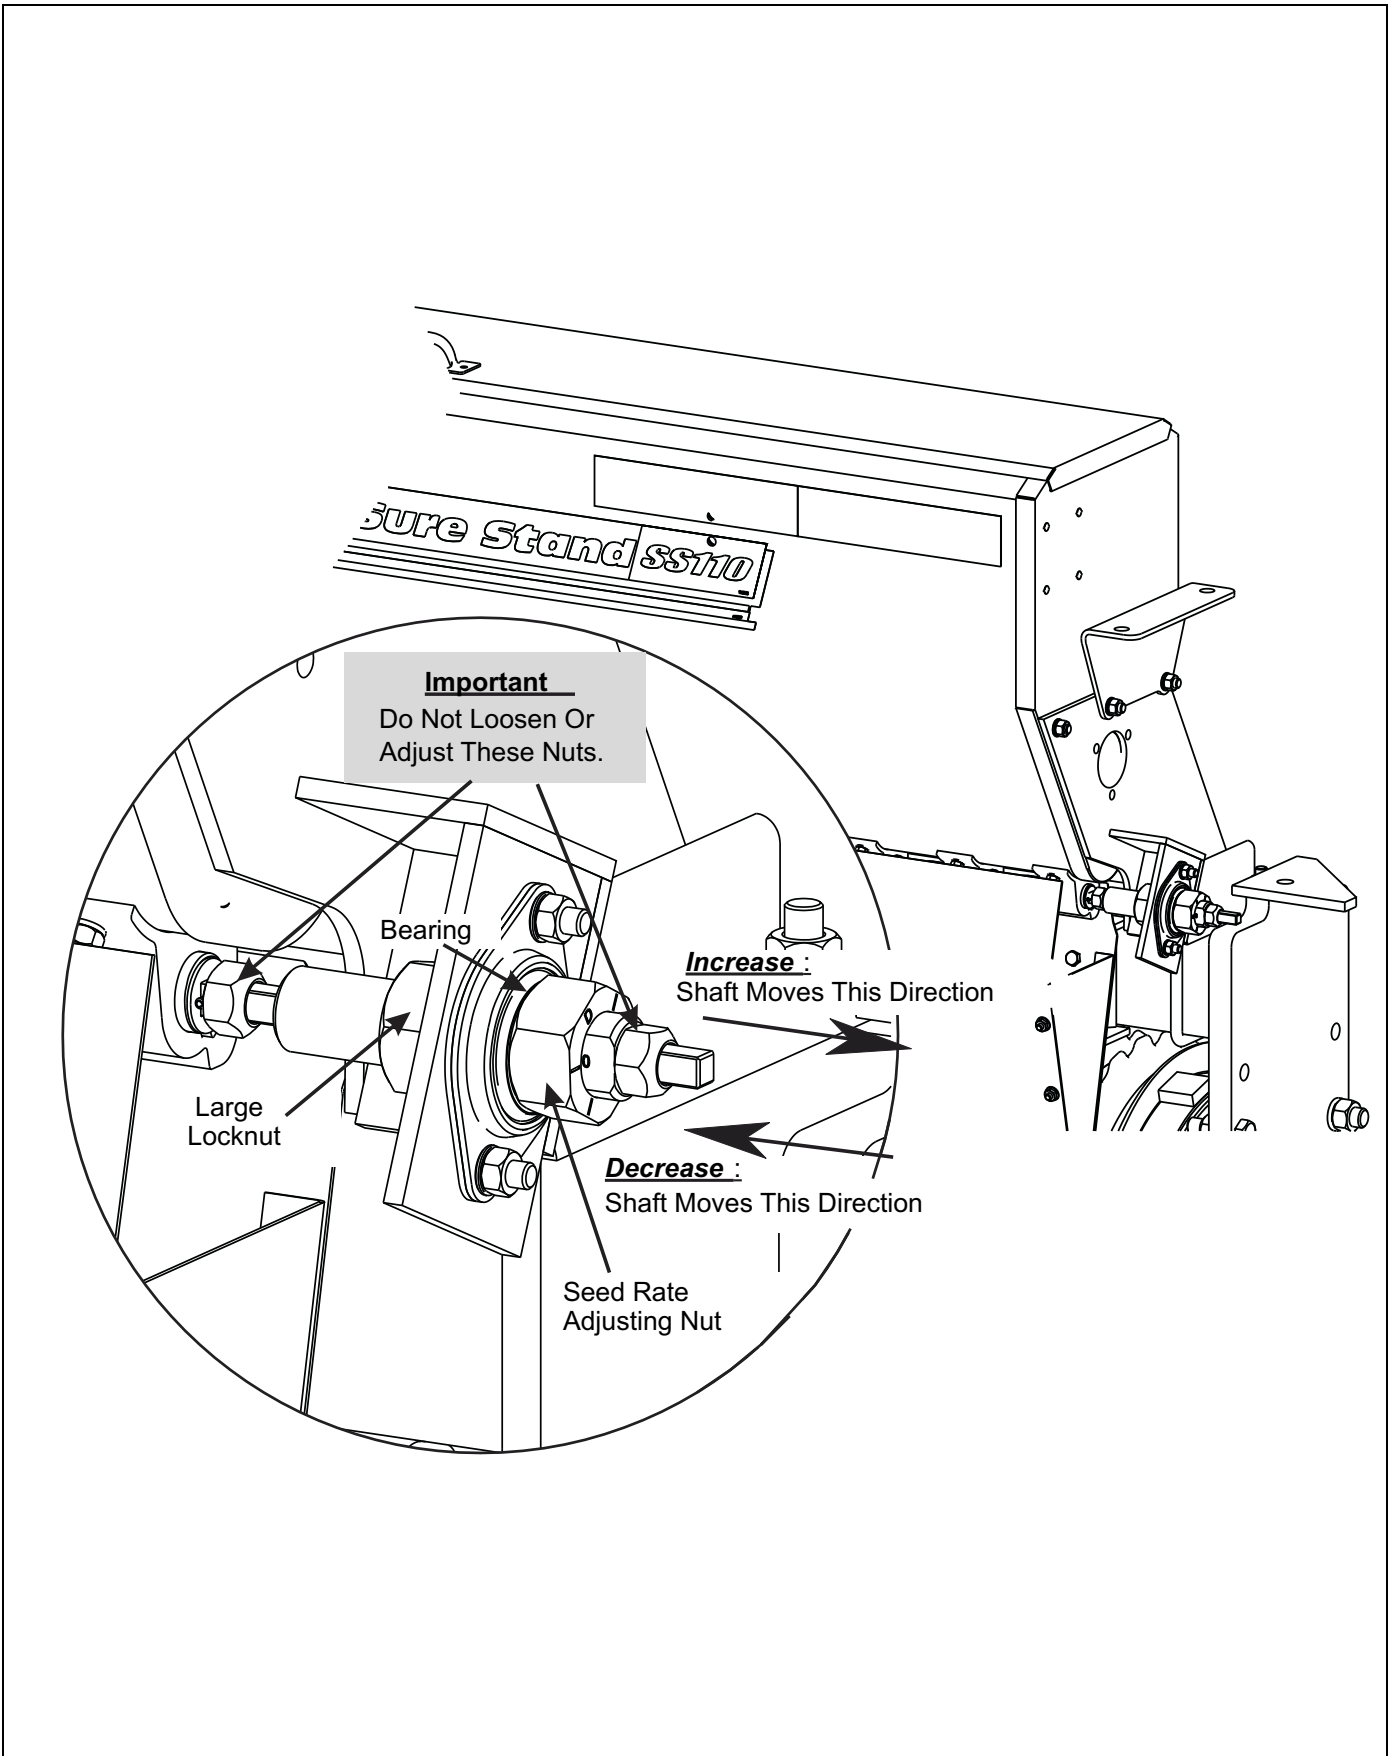

Figure 3-7: Seed Rate Adjustment
- To decrease the rate of seeding, loosen the inner seed rate adjusting nut and set the outer adjusting nut to the new desired lower number position; then tighten the large inner locknut. **See Figure 3-7.**